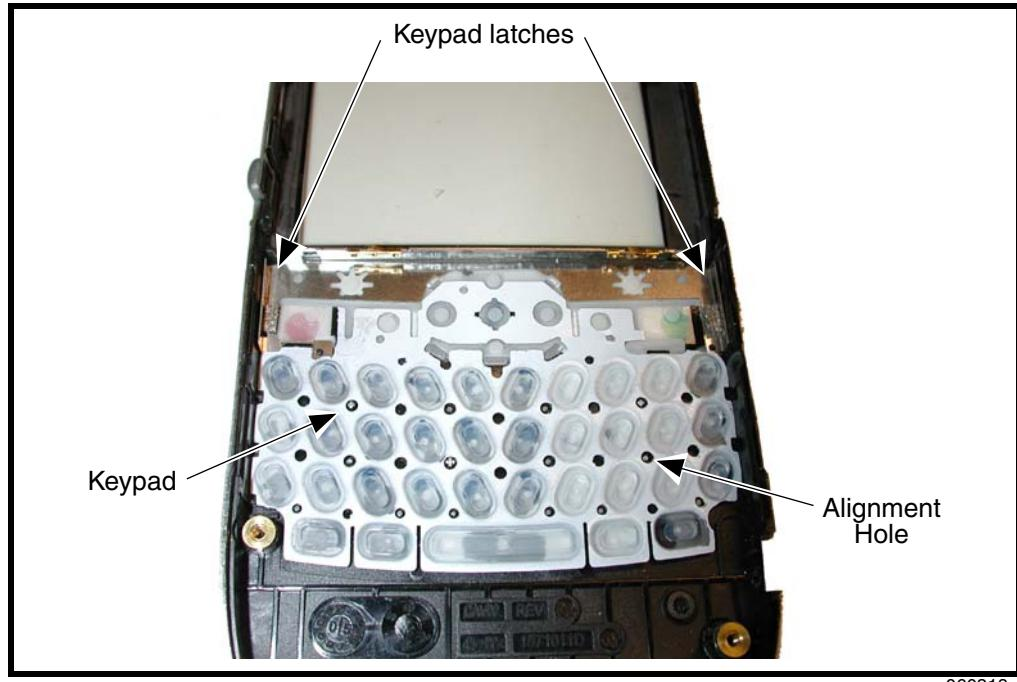

Figure 26. Removing the Keypad
2. Use the metal tweezers to lift the keypad from the front housing as shown in Figure 26.